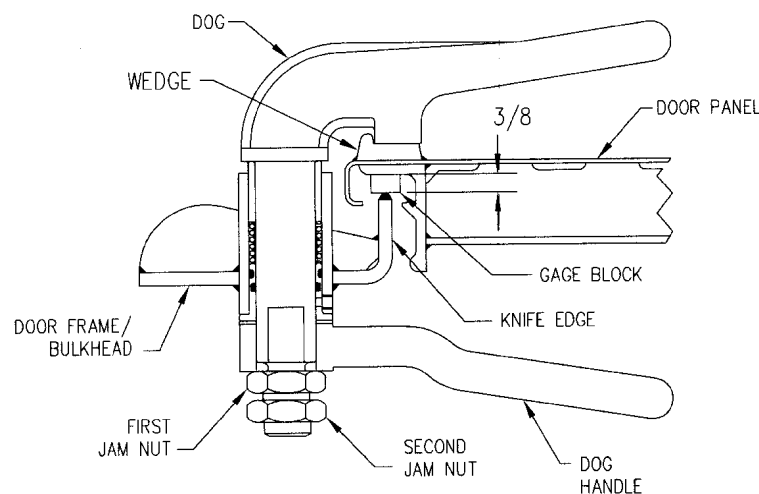

Figure 600-2.66. Dog Adjustment Without Gasket Installed
- e. Tighten the first jamnut or self-locking nut down until the knife-edge hits hard against the 3/8-inch thick gauge block. See figure 600-2.66.